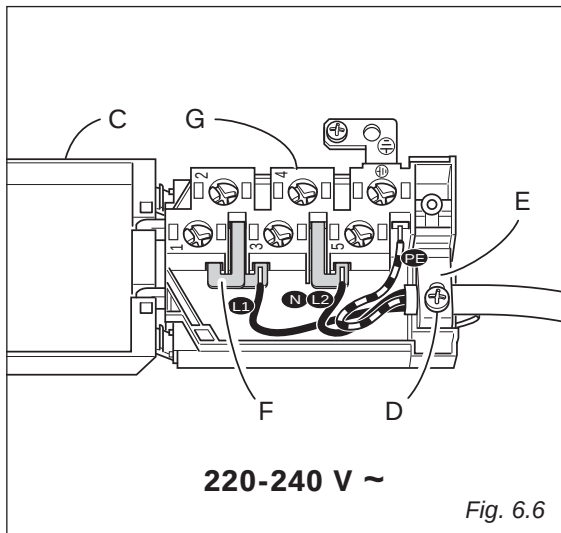

Fig. 6.6
- Unscrew the screw **D** and open completely the cable clamp **E** (figs. 6.6 - 6.7).
- Position the U bolts **F** onto terminal board **G** (figs. 6.6 - 6.7) according to the diagrams in fig. 6.5.